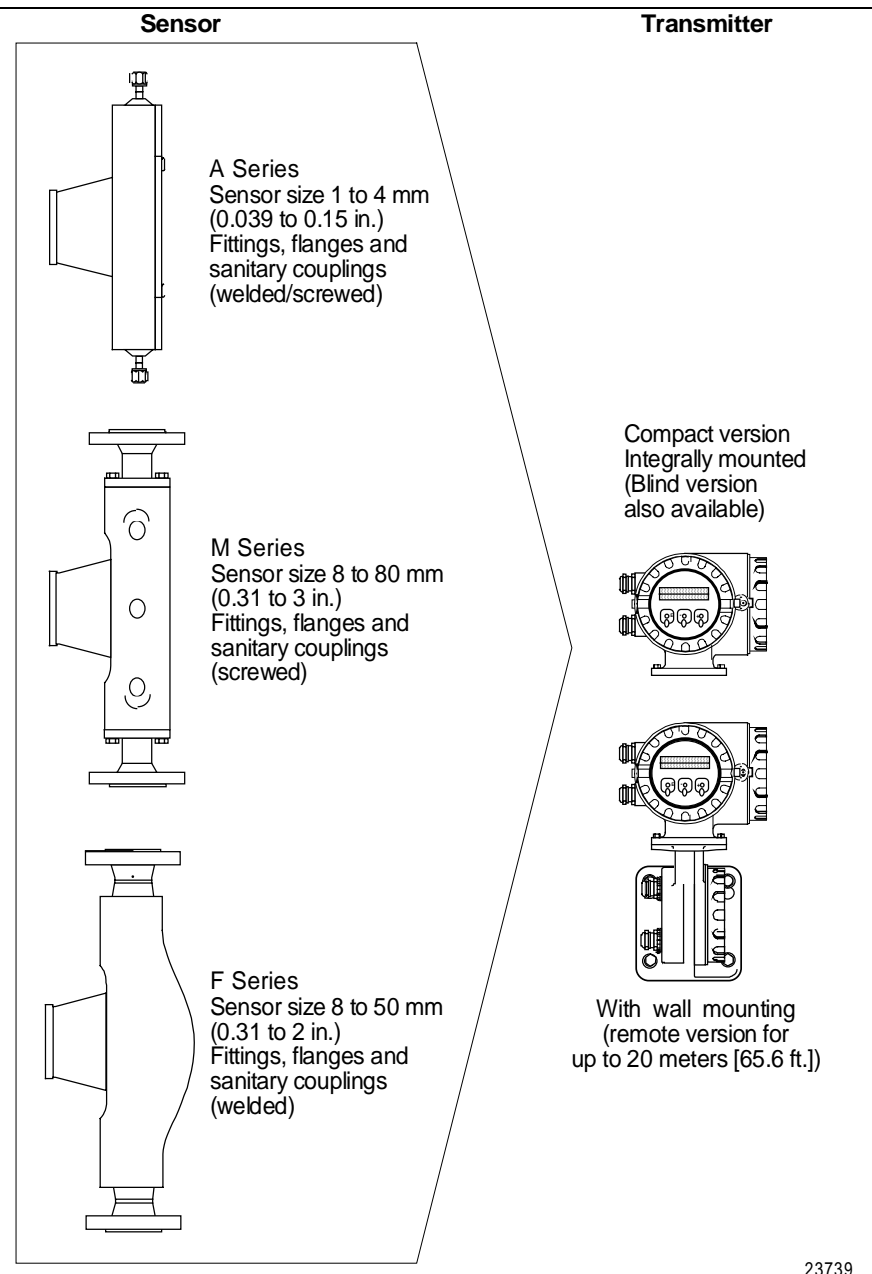

Figure 2 SCM 3000 **PLUS** Measuring System
- SCM 3000 **PLUS** A, M, or F Series sensor (see Figure 2)